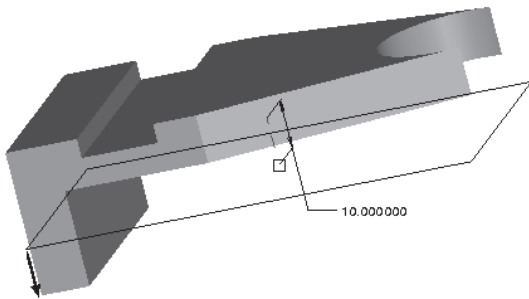

Figure 4-99 Creating the datum plane
- d. Create the hollow cylindrical feature on an offset datum plane, refer to Figures 4-99 through 4-104.
To create the hollow cylindrical feature, you require a datum plane. This datum plane will be created at an offset distance of 10 from the bottom face of the second feature shown in Figure 4-99.